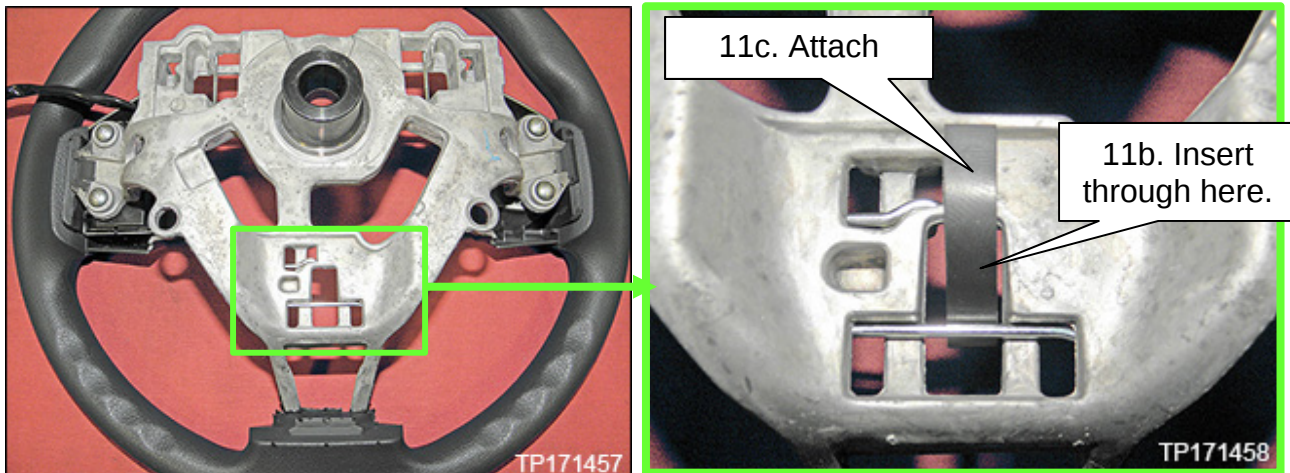

Figure 9
- b. Insert the rubber tape through steering wheel hole as shown in Figure 9.
- c. Attach rubber tape to surface of steering wheel as shown in Figure 9.